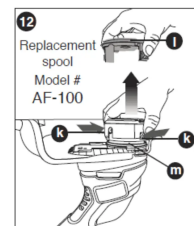

Figure 12
REPLACING THE SPOOL (FIGURES 12,13,14)
- Depress the tabs (k) and remove the spool cap (1) from the spool housing (m) in the trimmer head (figure 12).